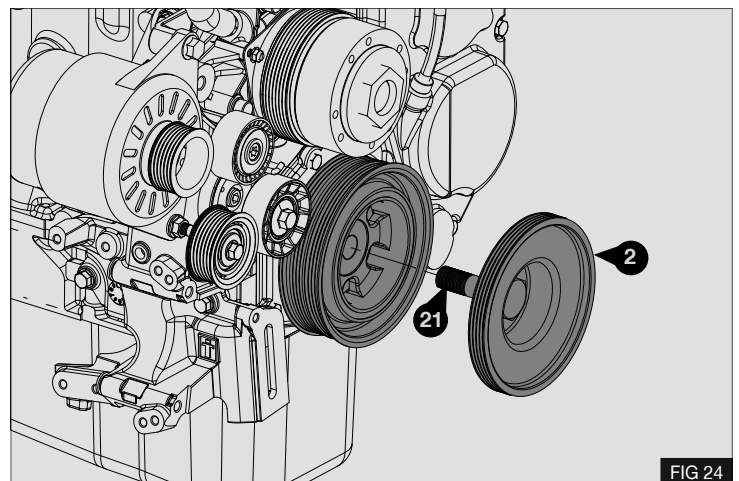

FIG 24
2. Fit the pulley (2) with bolt (21); ensure correct seating -Fig 24
3. Using the method detailed earlier lock the engine and torque bolt (21) to 350Nm / 258Lbft
4. Once crank bolt (21) is correctly tightened, re- fit the starter motor (V) using the original fasteners into their original holes and torque to 25Nm 18Lbft